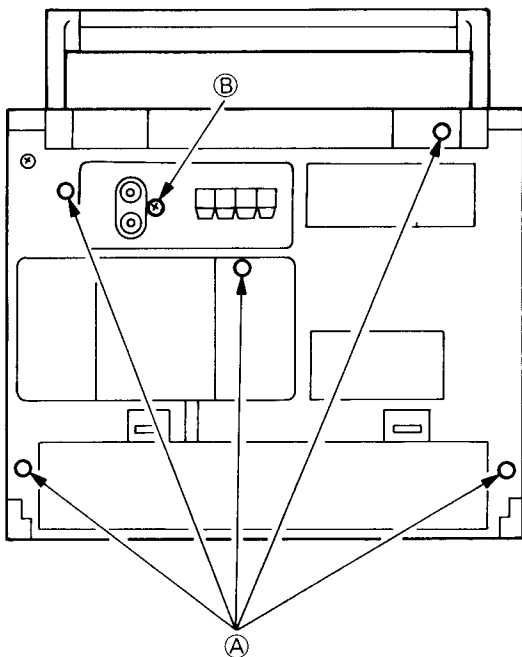

Fig. 2
2. Removing the Front Case (Figs. 2, 3)